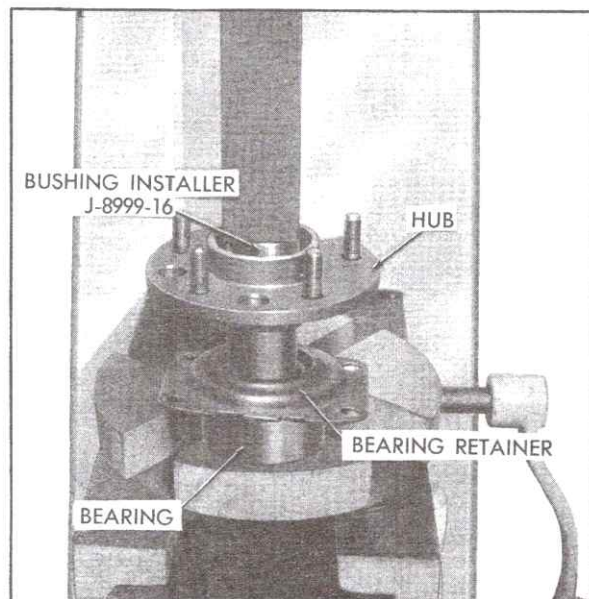

Fig. 3-33 Installing Bearing on Hub
3. Position bearing retainer and bearing on hub and place hub on arbor press with bearing seated on bed of press. Install Bushing Installer, J-8999-16, in stud end of hub and press bearing on hub, Fig. 3-33.